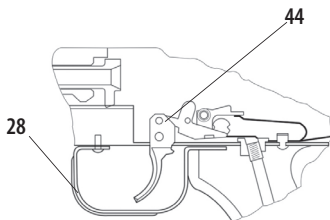

Fig. 18 *The trigger mechanism* /sectional view/
**Trigger 4** is pivoted in the receiver on pin 41 and controls the release of the striker through the sear. The rear part of the trigger fingerpiece projects to form projection **a** which when leant against the receiver, restricts backward motion of the trigger. In the top part of the trigger is a cut-out in which disconnector 42 is seated on disconnector pin 44 (Fig. 18). In the rear part of the trigger is an oblique bed for disconnector spring 43.
The sear is pushed into engagement with the nose of the striker by the **trigger mechanism feather** 47 arm (Fig. 18). The feather is mounted on the bottom of the recess of the receiver. It is locked by the rivet of the trigger guard rear end on which the trigger mechanism feather is placed with its circular opening in order to prevent longitudinal displacement. It is side guided by the screw nut of the grip. Arm c of the feather presses receiver cover pin safety pin 26 while the bent end of arm d snaps in the recess of the safety catch, thus locking its position. The dimple on arm d is intended for supporting the pointed end of the front sight spanner when taking out or inserting the safety catch.